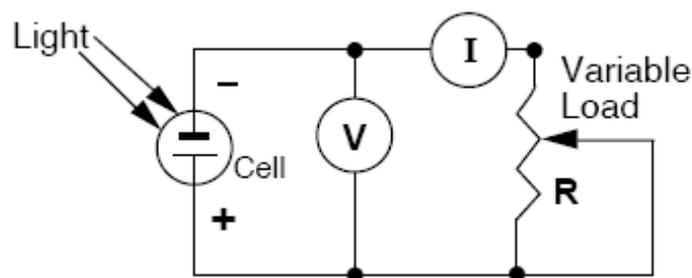

Figure 4. The solar cell's IV curve electrical circuit.
The apparatus for the Part 1 consists of a solar cell, an ammeter and a variable resistor both connected in series with the solar cell, and a voltmeter connected in parallel. The electrical circuit required in this experiment is given in Figure 4.
4. Set the circuit diagram as shown in *Figure 4*, use the yellow meter to measure the current.